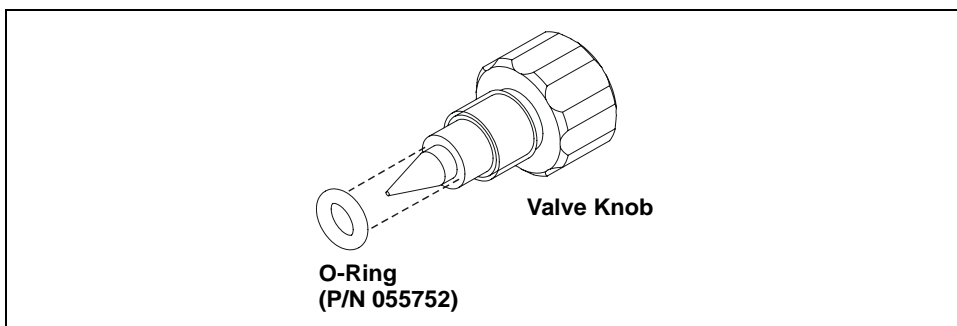

Figure 5-8. Waste Valve or Priming Valve O-Ring Replacement
4. If the O-ring is removed with the valve knob in Step 3, pull the O-ring off the end of the knob (see Figure 5-8). If the O-ring is not removed with the valve knob, insert a thin object (for example, the bent end of a paper clip) into the cavity in the pump head and carefully pull out the O-ring. **Do not scratch the cavity.**